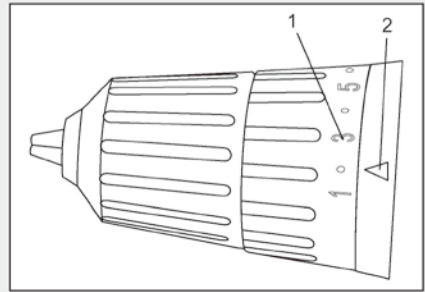
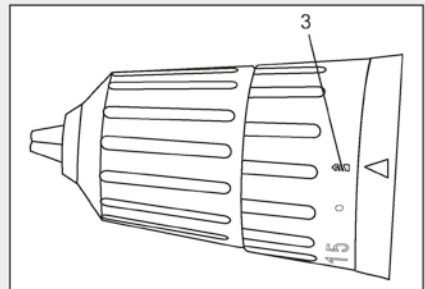

Fig. 4
Fig. 5
1. Identify the torque settings located on the torque adjustment ring (1) (Fig. 4).
2. Rotate adjustment ring to align the correct torque setting number with the torque indicator arrow (2). See the chart on the following page for correct torque settings.
-  For drilling. This position is marked with a drill bit icon (3) on the torque adjustment ring (Fig. 5).